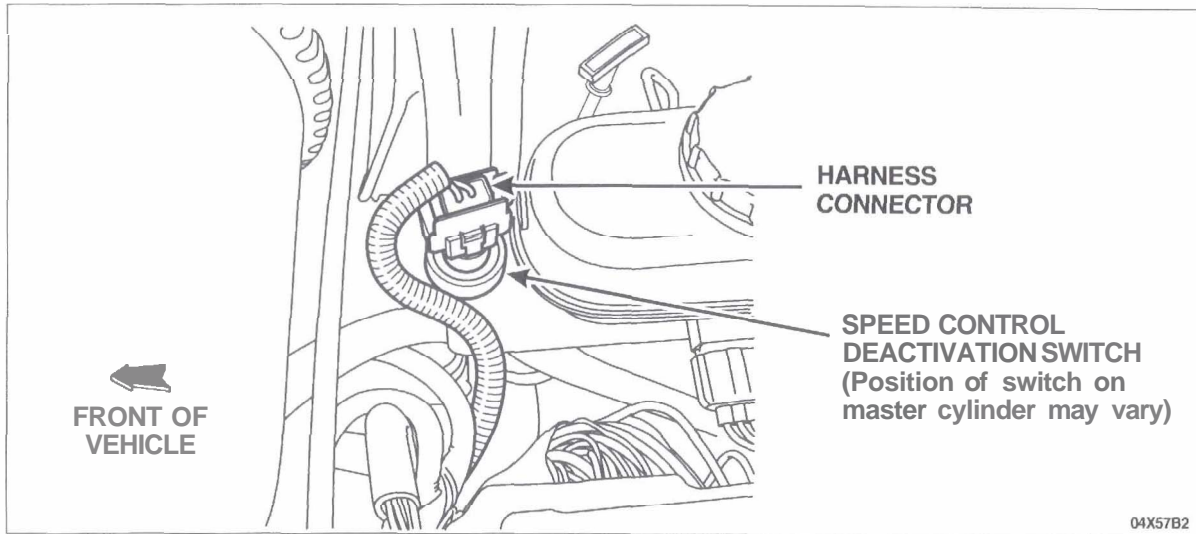

FIGURE 2
2. Disconnect the speed control deactivation switch located on the brake master cylinder and inspect the harness connector for the presence of brake fluid. See Figure 2.